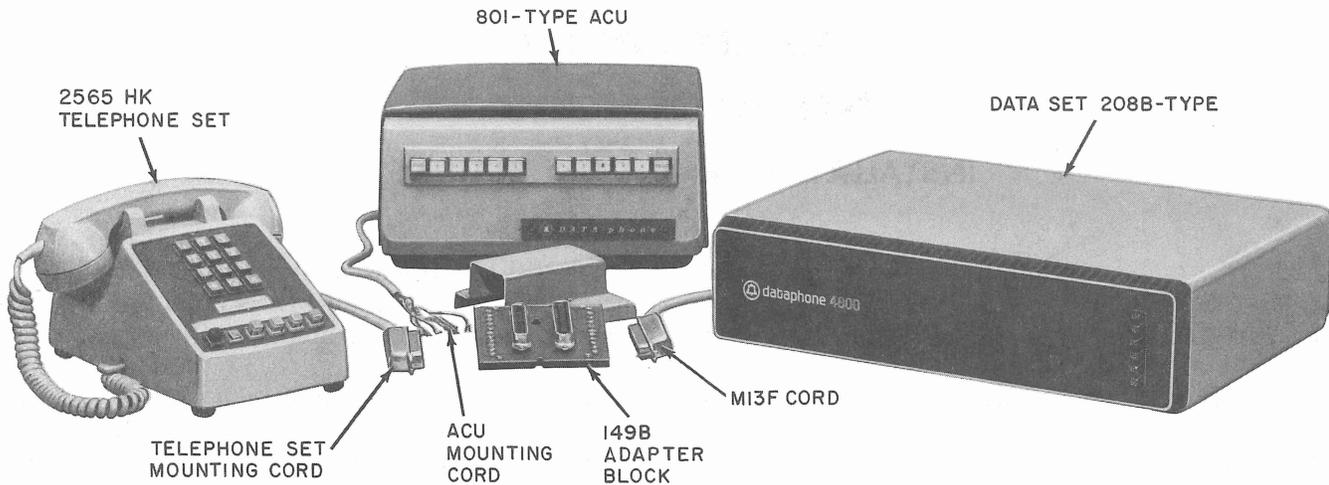

Fig. 1—Single Data Set 208B-Type With ACU—Station Components
**1.01** This section contains information concerning installation and connection of data set (DS) 208B-type. DS 208B-type is a synchronous, binary, serial 4800-bps data set for use on the 2-wire switched telecommunications network. The data set should be installed in conformance with existing installation practices. Refer to the section entitled Data Sets and Data Access Arrangements—General Installation and Connection Information (590-010-200). DS 208B-type is recommended for use with a 565HK-type telephone set for manual call origination and voice/data transfer on the switched network. The telephone set must be ordered separately. If automatic call origination is required, a Bell System data auxiliary set (DAS) 801-type automatic calling unit (ACU) must be ordered separately. Station components required for an installation using an ACU are shown in Fig. 1.